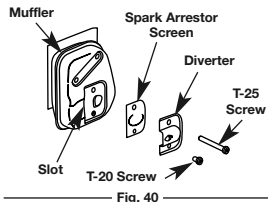

Fig. 40
- With a flat blade screwdriver or Torx T-20 bit and a T-25 bit, remove the screws attaching the spark arrestor diverter to the muffler (Fig. 40).